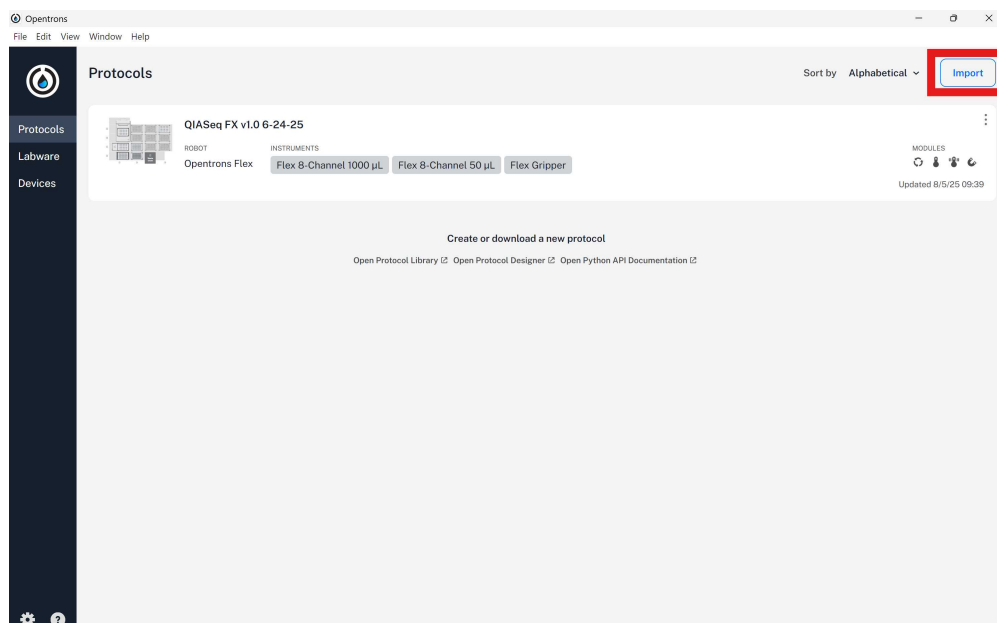

Figure 6. Opentrons app "Protocols" tab screen with the import button outlined in red.
- In the Opentrons app, under the "Protocols" tab, click import and upload the python script, as seen in Figure 6.